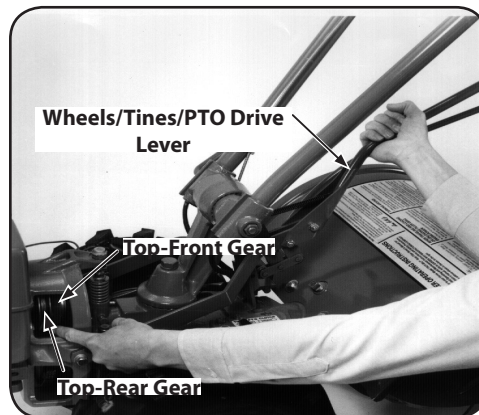

Figure 4-10
3. Stand on the left side of the tiller. Use your right hand to hold the Wheels/Tines/PTO Drive Lever up into REVERSE position. Use your left hand to move the belt off the top-front engine pulley groove to top-rear engine pulley groove. See Figure 4-10.